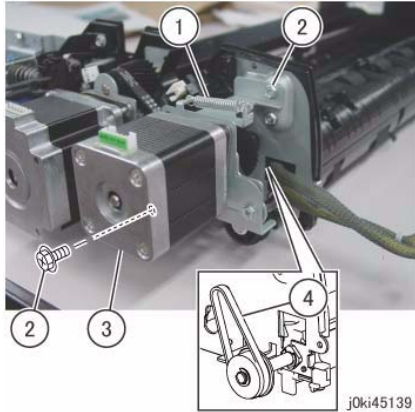

Figure 2 Remove the DADF Reg Motor and Bracket
12. Remove the DADF Reg Motor and the Bracket. (Figure 2)